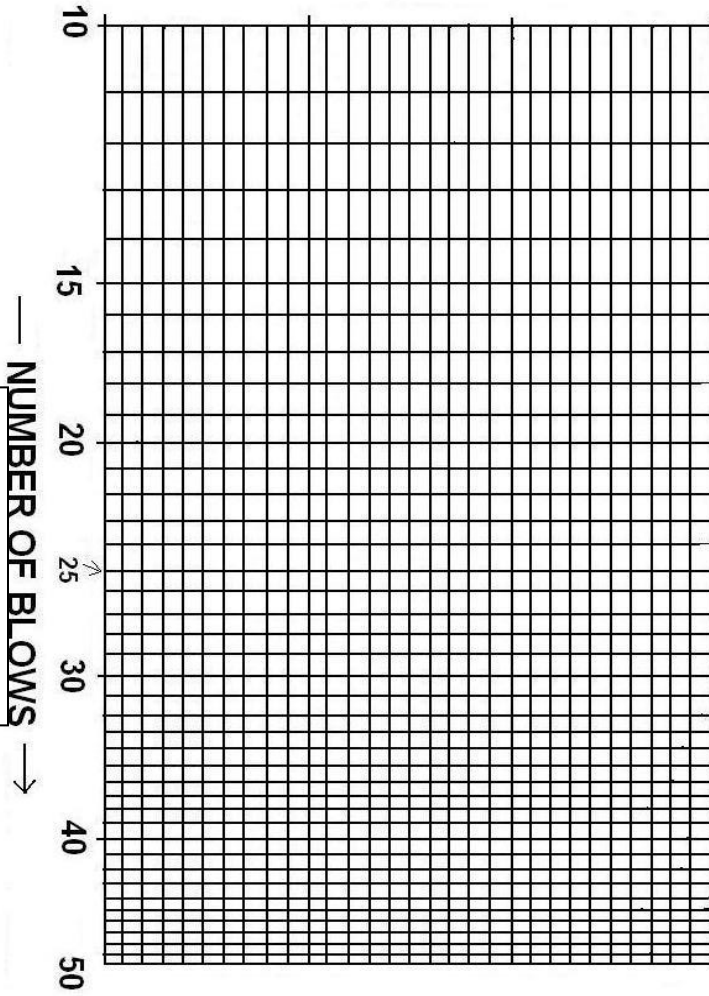

FIG. 1
- (i) Determine the liquid limit, using figure 1.